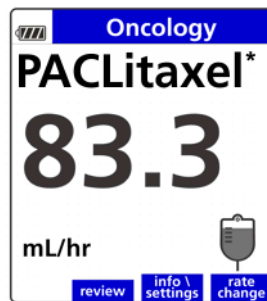

Figure 114. Infusion Running Screen. See important note on page 94.
1. At the Infusion Running screen, press the **rate change** soft key. See Figure 114.